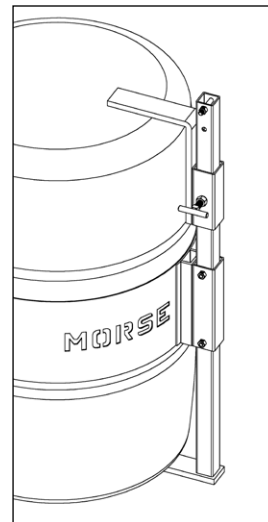

Figure 2.1
- The **Bracket Assembly** (Part # 4556M-P) is **required** to handle a plastic drum without a top rim (see figure 2.1). It is also recommended to more securely handle a fiber drum. You can use the Bracket Assembly with a 55-gallon plastic, steel or fiber drum. The brace at top and bottom of the drum prevent it from slipping lengthways through the drum holder. It adjusts for a drum 31" to 37" tall.